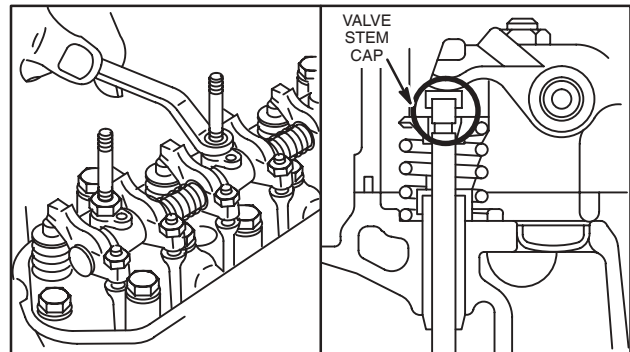

Fig. 7 – Remove Rocker Arm Assembly And Push Rods
3. Remove rocker arm assembly and push rods, Fig. 7.